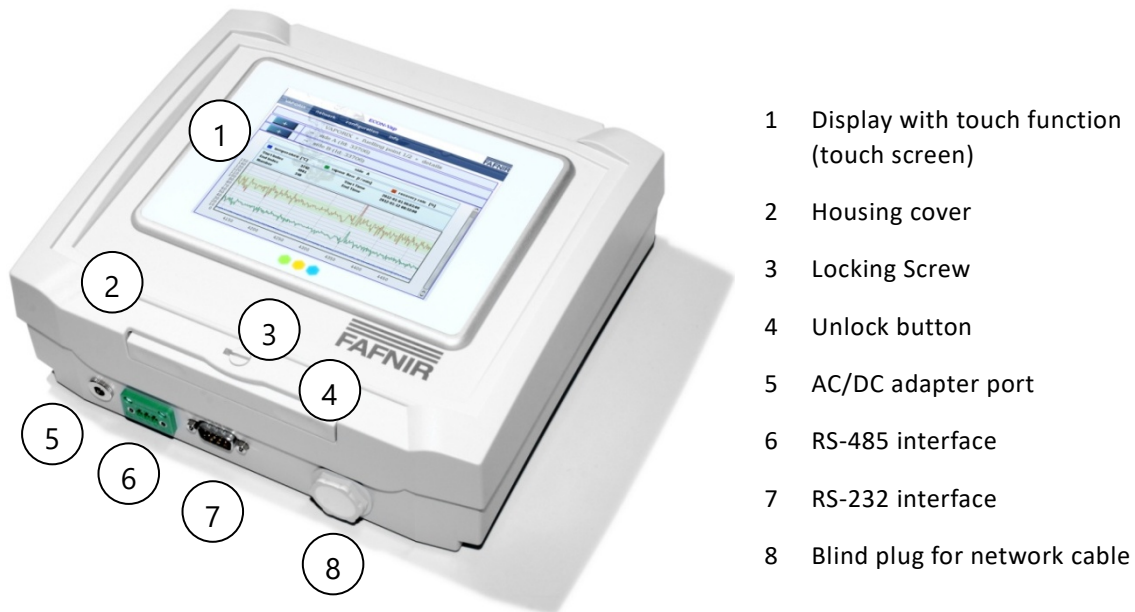

Figure 2: The SECON from the front
The SECON is equipped with the following interfaces (see Figure 2):
- (6) Connect the AC/DC adapter supplied to the AC/DC adapter connector of the SECON (see Figure 2) and to the mains.